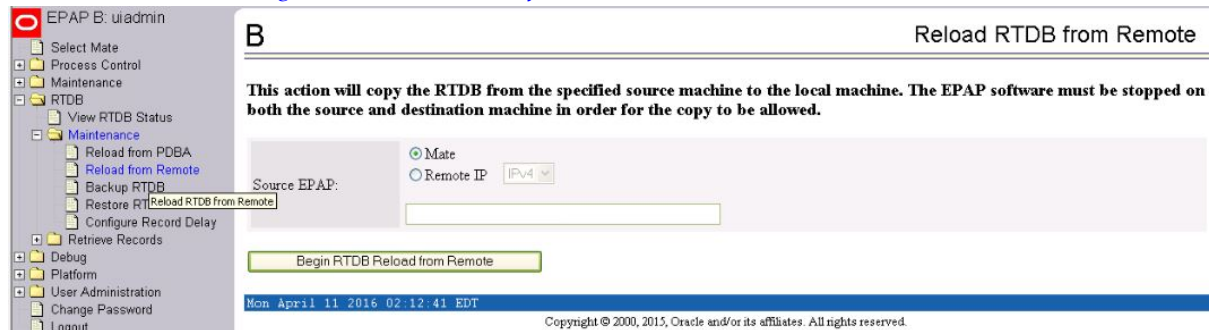

Figure 36: Reload RTDB from Mate EPAP
The screen shown in Figure 36: Reload RTDB from Mate EPAP shows this function.
7. Make sure that the Mate radio button is filled in, as shown in Figure 36: Reload RTDB from Mate EPAP and click the **Begin RTDB Reload from Remote** button.
8. Click the **Reload** button as shown in Figure 36: Reload RTDB from Mate EPAP.
The screen shown in *Figure 36: Reload RTDB from Mate EPAP* shows this function.
8. Make sure that the **Mate** radio button is filled in, as shown in *Figure 36: Reload RTDB from Mate EPAP* and click the **Begin RTDB Reload from Remote** button.